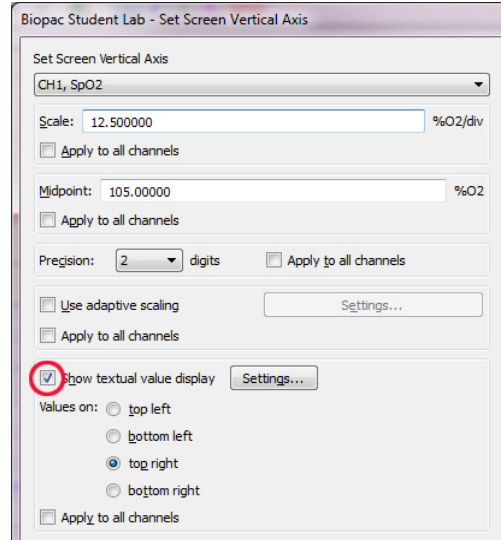

Figure 5
- It may be useful to enable **textual value display** in order to show the numerical values for SpO₂ during the recording. This option is not available in software prior to BSL 4.0. To enable, position the arrow cursor over the numerical values in the vertical scale region and click the mouse button. The dialog shown in Figure 5 will appear. Check the “**Show textual value display**” box and click “**OK**” to close the dialog.